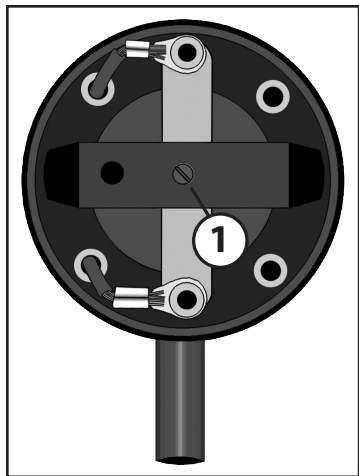
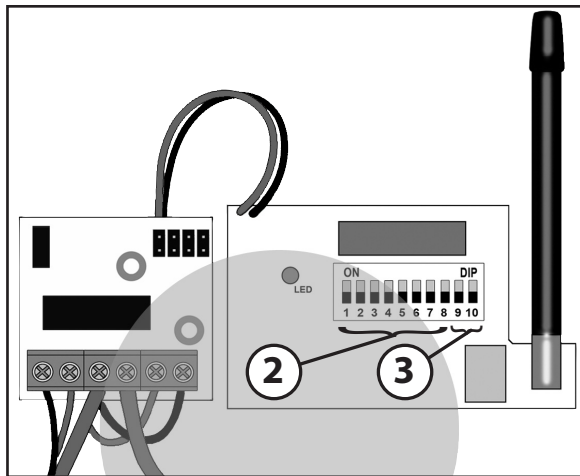

figure 2
figure 3
1. Open the transmitter box. The first thing you will see is the air switch (Figure 2). Directly below the air switch is the transmitter's radio (Figure 3).
2. Locate the dip switches on the radio ②③.
3. Switches 1-8 are for the frequency setting (256 combinations). They are set at the factory to the on position in both the receiver and transmitter. If needed, set switches 1-8 ② to match the eight switches in the receiver.
4. Switches 9 and 10 ③ are for the channel setting on the transmitter. Use these to set the tone you prefer. The four channels are listed in the table on page 5:
- Adjust the screw on the air switch in the transmitter (Figure 2) ① by turning it clockwise. This will increase the sensitivity.
- Adjust the screw on the air switch in the transmitter (Figure 2) ① by turning it counter-clockwise. This will decrease sensitivity.